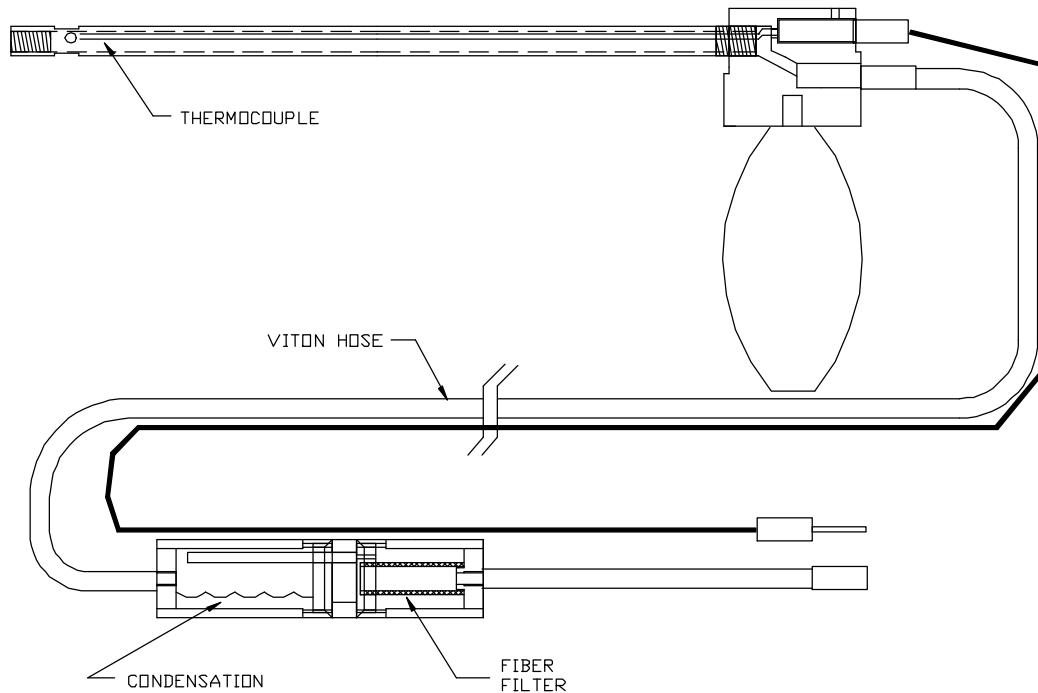

FIGURE 1
3. A condensation trap and particulate filter assembly to remove the excess water and clean the sample. The condensation trap is mounted for convenience to the side of the hand held analyzer. Figure 1 shows the probe assembly which is identical for both analyzers.